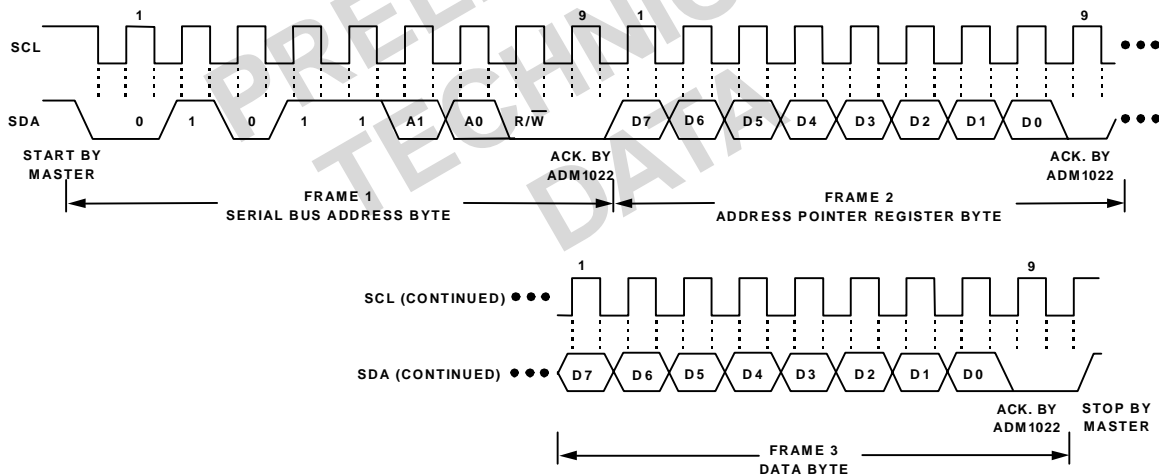

Figure 11a. Writing a Register Address to the Address Pointer Register, then Writing Data to the Selected Register
This is illustrated in figure 11a. The device address is sent over the bus followed by  $R/\overline{W}$  set to 0. This is followed by two data bytes. The first data byte is the address of the internal data register to be written to, which is stored in the Address Pointer Register. The second data byte is the data to be written to the internal data register.
2. In figures 11a to 11c, the serial bus address is shown as the default value 01011(A1)(A0), where A1 and A0 are set by the three-state ADD pin.